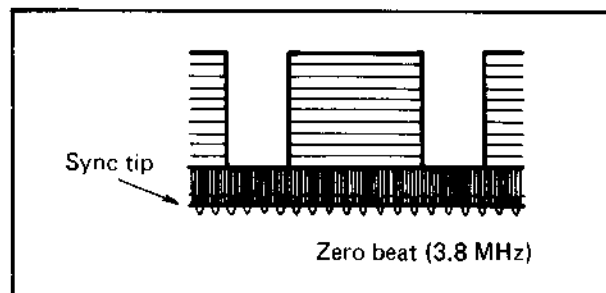

Fig. 6-25 Carrier and deviation adjustment - A
5. Set the frequency of high-frequency sine-wave generator to 3.8 MHz, and adjust R20 (CARRIER SET) so that the waveform observed at the oscilloscope shows a zero beat at the bottom of the waveform as shown in Fig. 6-25.